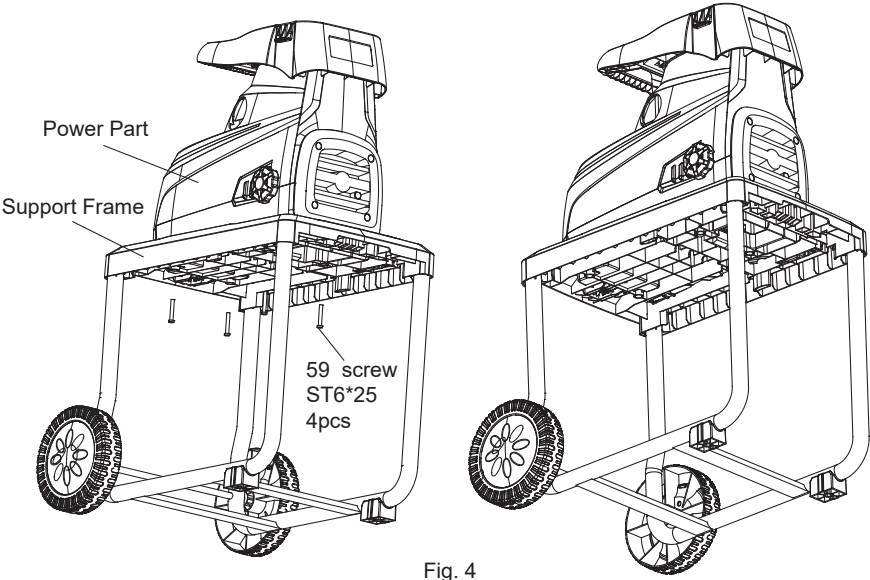

Fig. 4
5. Install the power part and the support frame, and tighten them with 4 bolts (No. 59 screw : ST6*25), See Fig. 4.